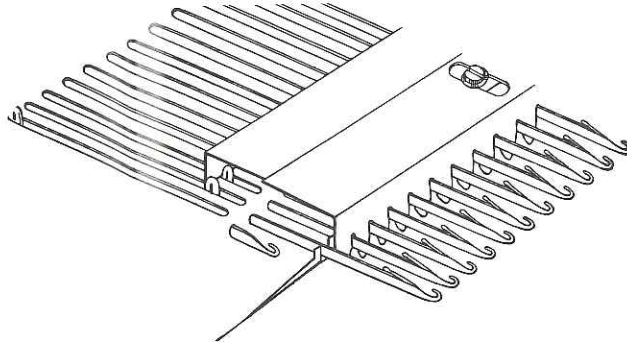

Fig. 1
2. Place the Stopper over the Butts of the Needles and Sinker Needles (Figure 1).